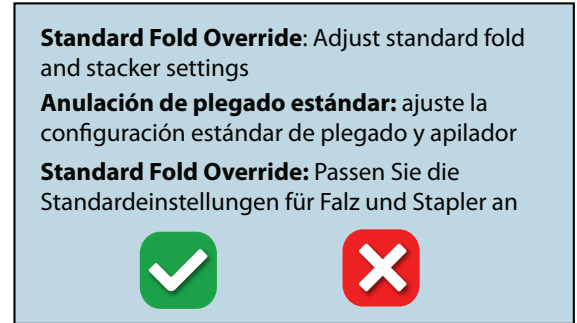

Fig. 31
2. "Standard folds will be modified from factory settings" warning will be displayed (Fig. 31). Press the green box with the check to continue or the red box with the X to exit and return to the operator screen.